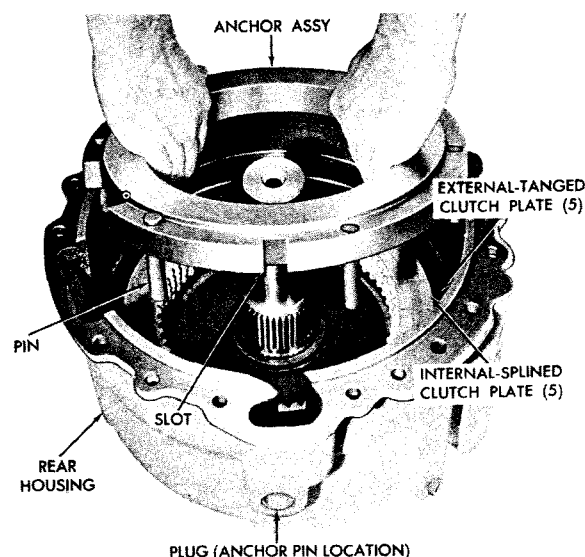

Fig. 7-33. Installing low-range clutch anchor assembly (-3 underdrive model)
(3) Install the clutch anchor pin into the rear housing.
(4) Beginning with an external-tanged clutch plate, alternately stack five external-tanged and five internal-splined plates on the face of the low-range clutch piston in the housing (fig. 7-33).
(5) Install the low-range clutch anchor assembly, engaging the anchor pins with the slots in the external-tanged clutch plates, and the slot in the anchor with the anchor pin in the rear housing (fig. 7-33).